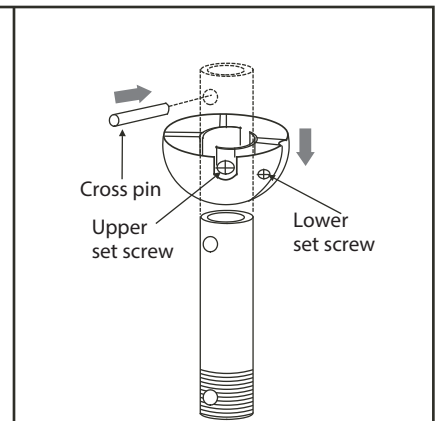

Fig. 3
3. Install the slope ceiling adaptor ball to the existing downrod or new longer downrod with the crosspin from your existing downrod. Push ball up until it engages the crosspin and tighten set screws. (Fig. 3)